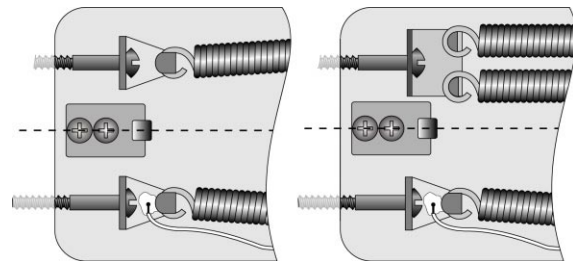

fig. 1
2) While holding the sustain block to full "string raise" position (this means pulling your strings all the way up with your tremolo bar), carefully measure at least 3 3/8" (min. 86 mm) from the edge of sustain block (see fig. 1). Mark in line with the center springhole position, using a sharp tool such as an awl or center punch. Mount the hinge clip using flat head screws provided. On some short cavity guitars, there may not be room to mount the hinge clip unless you cut the clip in half and mount it with a single screw (see fig. 2).